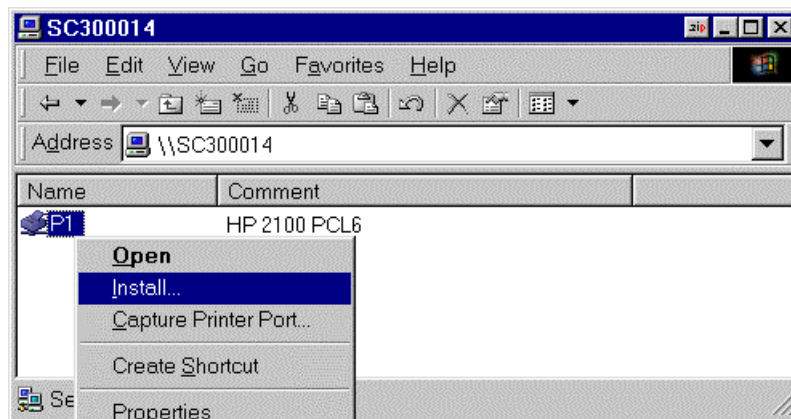

Figure 5: Install SMB Printer
- Or, using the **Capture Printer Port** menu option shown in Figure 5 above.